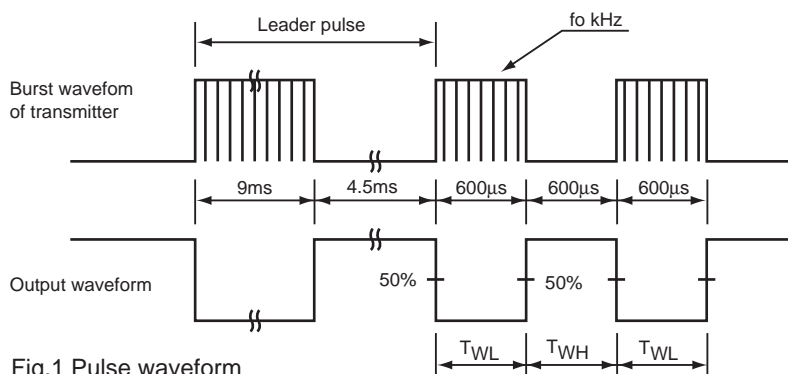
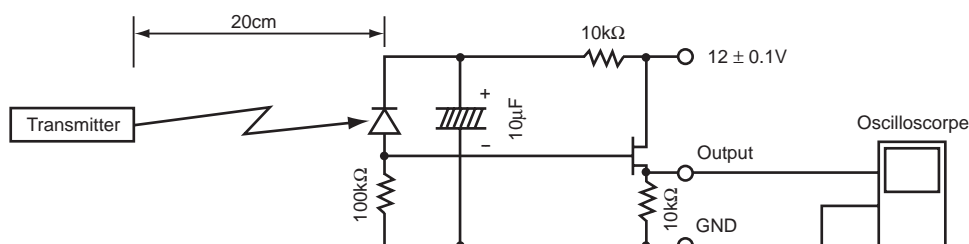

Fig.1 Pulse waveform
Fig.2 The output adjustment of transmitter
\*2 As shown in Fig.1, burst wave shall be transmitted by our transmitter in item 7. Detector face illuminance : Ee < 10 lx
The Transmitter shall be defined by adjusting the output of transmitter to make  $V_o=400mV_{p-p}$  according to the burst wave shown in Fig. 1 and measurement condition shown in Fig.2. In addition infrared LED used in the transmitter is set to  $\lambda_{peak}=945nm$ ,  $\Delta\lambda=45nm$ , and photodiode used in the receiver is set to  $32nA / I_x$  ( $V_R=5.0V$ ).